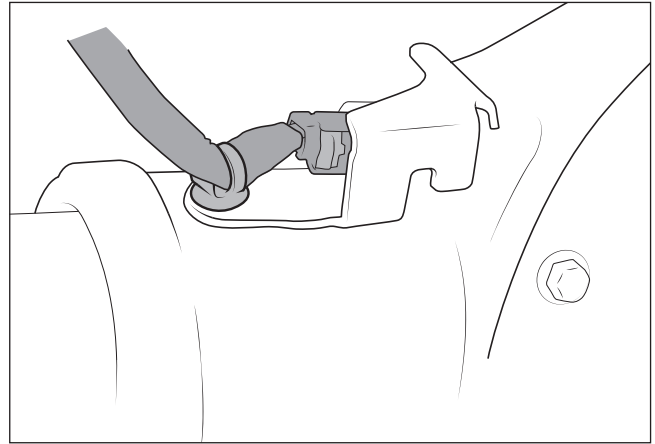

Figure 6
9. **POWER WAGON ONLY** – Disconnect the front locker plug and remove the zip tie from the axle (fig. 6).